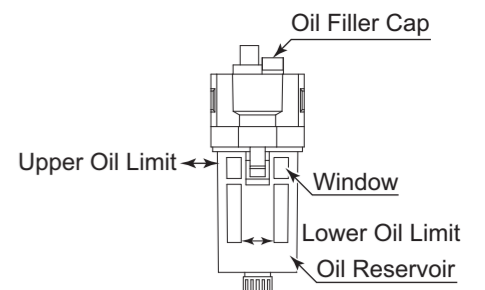

Fig. 21
- Fill Oil Reservoir through the Oil Filler Cap with recommended NAKANISHI Lubricating Oil (K - 211 : Air Line Kit's Standard Accessories) to Upper Limit of the Fig. 21. Disconnect from air supply prior to opening Oil Filler Cap. Do not over or under fill.
- Oil Amount (Fig. 21)
- Check the Oil Amount in the Window. If the Lubricating Oil level is low, add additional oil. (Supply Lubricating Oil to Upper Oil Level Limit of Fig. 21.)